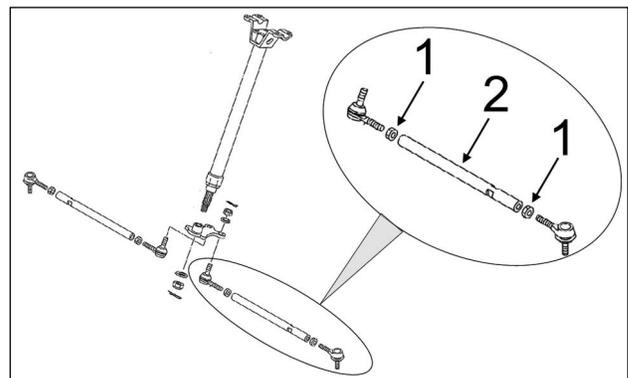

Figure 19
To adjust the ATV steering system, first loosen coupling rod nuts (1), then screw or unscrew the coupling rod (2) an equal number of revolutions on both sides of the vehicle. Re-tighten nuts when adjustment is complete. See Figure 19.
**CAUTION:** Remember that some nuts have reverse threads before loosening a coupling rod nuts (1) on the vehicle's steering system. Make sure to unlock the nut in the proper rotational direction.